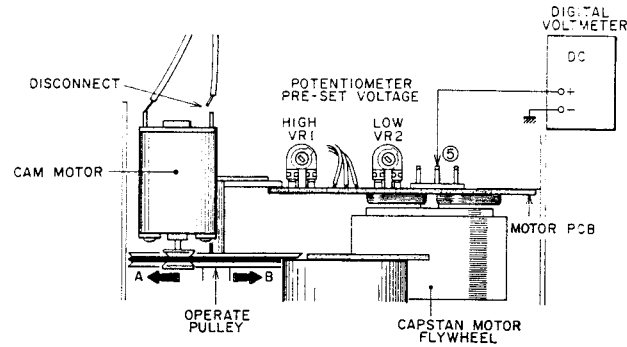
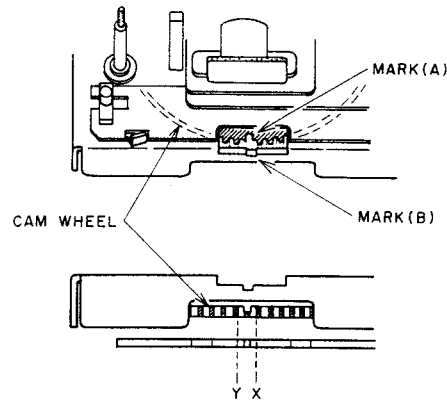

Fig. 4-4.
Fig. 4-5.
4-4. POTENTIOMETER PRESET VOLTAGE ADJUSTMENT (Refer to fig. 4-4 to 4-5)
- b. Connect the digital voltmeter as shown in fig. 4-4.
- c. With power ON, adjust VR2 so that the voltage reading will be 1.15V (DC).
- b. With power ON, adjust VR1 so that voltage reading will be 9.08V (DC).
- b. Adjust VR1 slightly so that the center of Marker (A) coincides with the center of Marker (B) (should be within the range between X and Y) at STOP Mode as shown in Fig. 4-5. (The marker (STOP) on the CAM WHEEL can be seen clearly by lighting it from the back.)